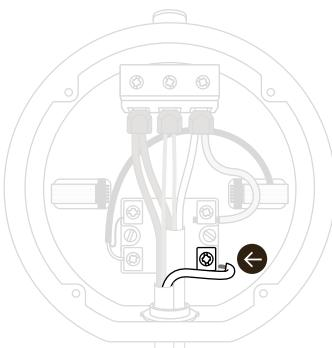

Figure 5.7
11) Insert the stripped portion of the wire under the clamping plate of the terminal and tighten securely as shown in Figure 5.7